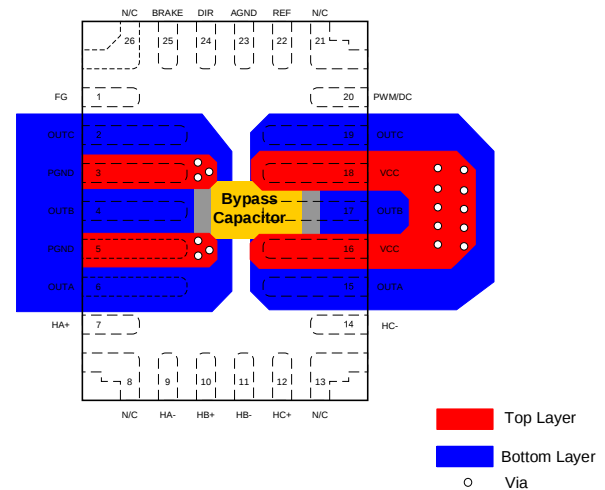
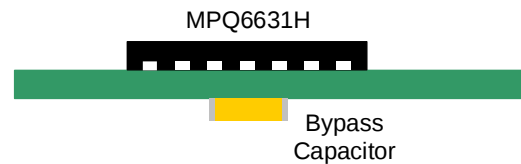

Figure 12: Recommended PCB Layout (Top View)
Figure 13: Recommended PCB Layout (Side View)
Efficient PCB layout is critical for stable operation. For the best results, refer to Figure 12 and Figure 13, and follow the guidelines below:
- Figure 12 shows the recommended PCB layout when the MPQ6631H is placed on the top layer and the bypass capacitor is placed on the bottom layer.
- Figure 13 shows the side view of the MPQ6631H's recommended PCB layout.